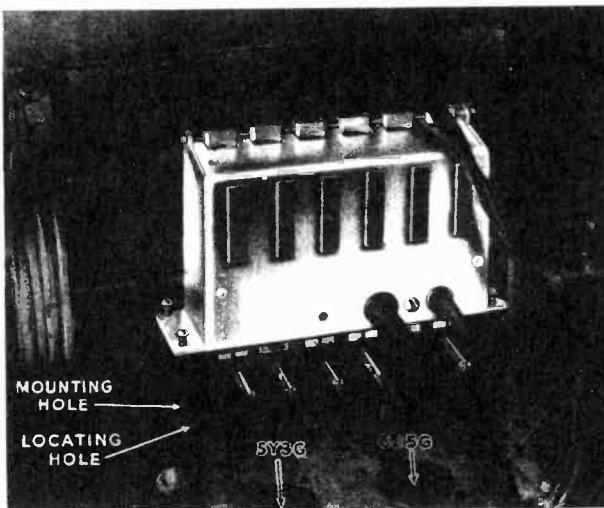

FIG. 5
2. Referring to Fig. 5, note that the following two tubes have been removed:
3. Remove the cover plate on the top of the chassis by taking out four screws. Fig. 5 is a view of the chassis showing the cover plate removed.
6. Referring to Fig. 5, place the Magnet Assembly in position as shown, so that the slots in the armatures are directly over the plungers. Now, carefully lower the Magnet Assembly so that the plungers enter the slots in the armatures. A screwdriver will be helpful in lining up any armature which may not be directly over the plungers.
7. The armatures must slip over the plunger in front of the shoulder of the plunger (see Fig. 5); also, refer to drawing (Fig. C, Page 8) which illustrates this point more clearly.
8. Reset the Magnet Assembly on the chassis base and move it slightly toward the back of the radio until the locating pins (see Fig. 1) on each side of the Magnet Assembly frame slip into the locating holes at both sides of the opening in the chassis base (see Fig. 5).